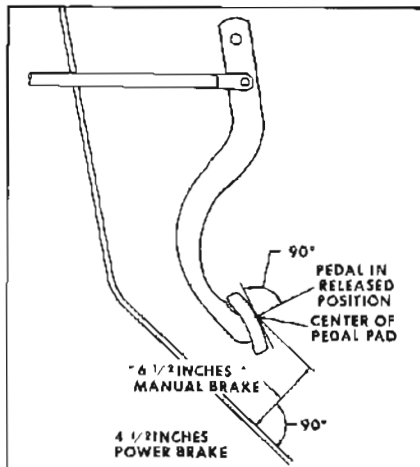

Figure 9-33—Measuring Brake Pedal Height
13. Reinstall the clevis lock nut and clevis and set the pedal height as shown in Figure 9-33. Tighten the lock nut to a 5-10 foot pound torque.